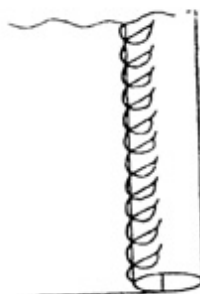

Fig. 15
7. Adjustment of Thread Tension (Figs. 15—16)